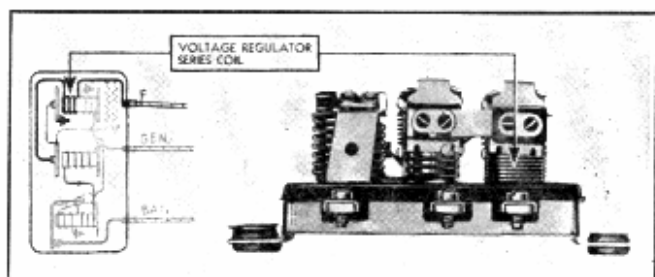

Fig. 12—Voltage Regulator Series Coil
The series winding on the core consists of a few turns of larger diameter wire, one end of which is connected to the field (F) terminal of the regulator and the other end to the upper point mounting of the current regulator. (Figure 12.) This winding is known as a series coil because it is connected in series with the shunt field of the generator.